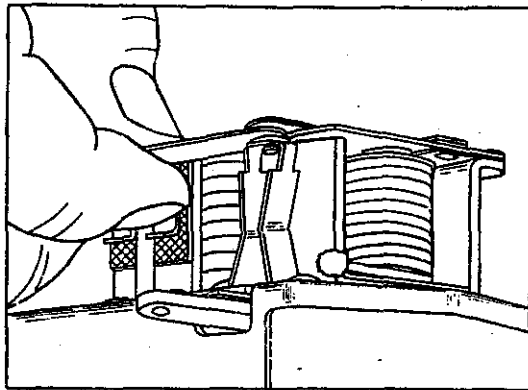

FIGURE 58
4. Check the gap of the contacts when open. See Figure 58.